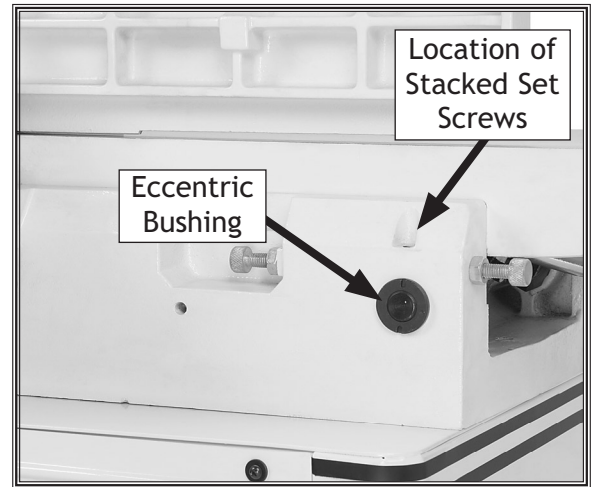

Figure 55. Eccentric bushing and set screw location.
4. Remove the top set screw from each of the four eccentric bushings (**Figure 55**), then loosen the set screws underneath those removed set screws (there are two stacked set screws in each location).